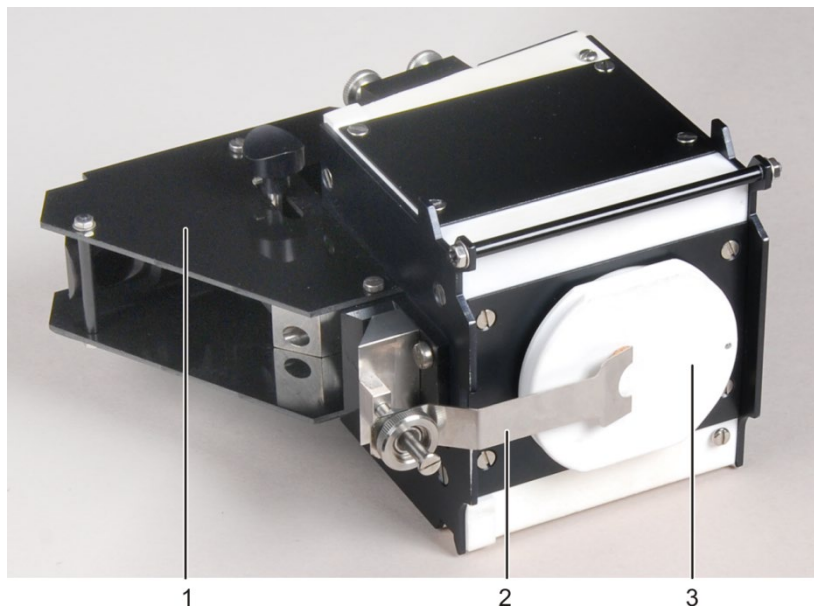

Fig. 100 Layout of the integrating sphere – View of the remittance aperture
4. Insert the Spectralon insert (1 in Fig. 100) into the reflectance opening of the spherical body.